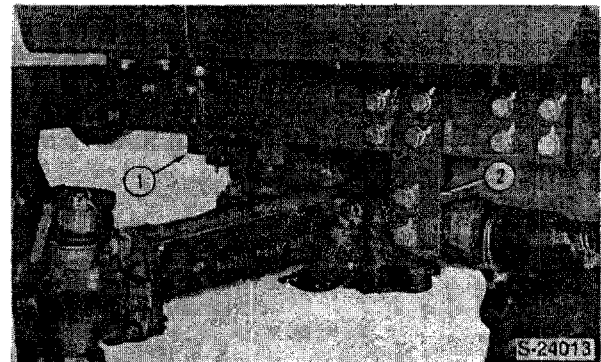

Figure 5
6. Remove the front and rear pivot support bolts, Figure 5.